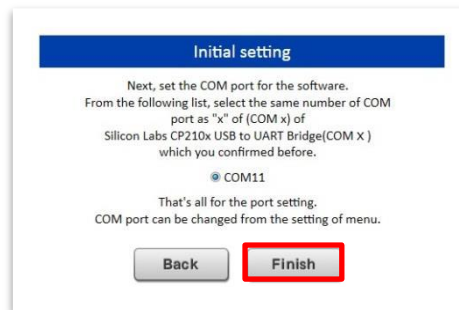

Figure 20 Selecting a COM port
- 5-3-4. Select the COM port of the number confirmed in "Device manager" from the list and click the "Finish" button (Figure 20).